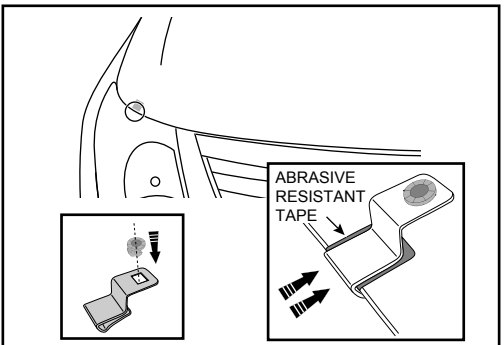

Figure 7
7. Fit the nut insert into the wing clips. Gently slide the wing clips into position onto the hood, corresponding to the holes in the wings of the Hood Protector, as shown. To avoid permanent damage to the hood's paintwork, ensure that the wing clips rest on the tape strips and not on the hood (see Figure 7).